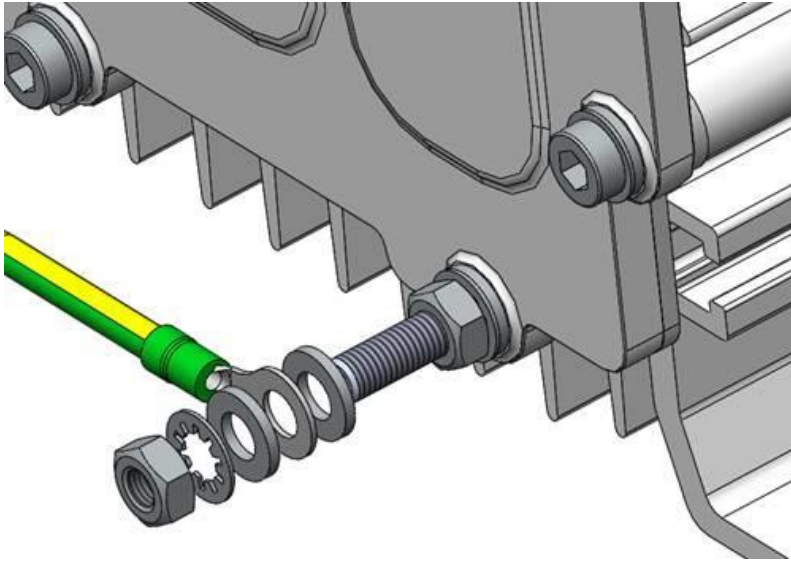

Figure 5: External earth bonding point.
Outside the Junction Box, an earth bonding point is also provided, Figure 5.
- Assemble the external earth bond as shown in Figure 5.